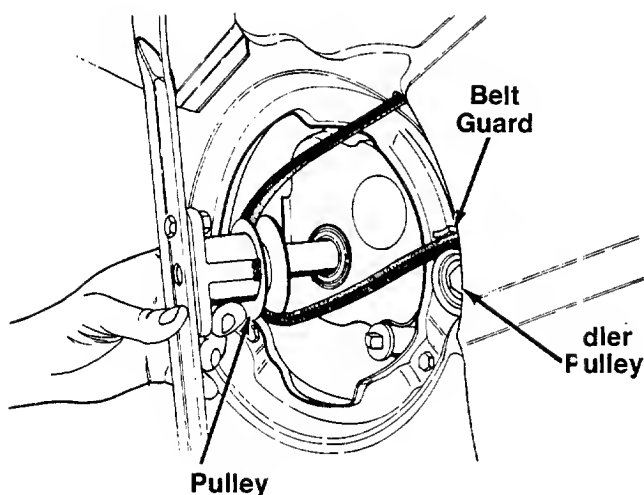

FIGURE 29.
7. Remove the belt from between the idler pulley and the belt guard on the idler pulley bracket. Refer to figure 29.
- C. Release the idler pulley so it falls down into position. Slide the belt in between the idler pulley and the belt guard on the idler pulley bracket as shown in figure 29.